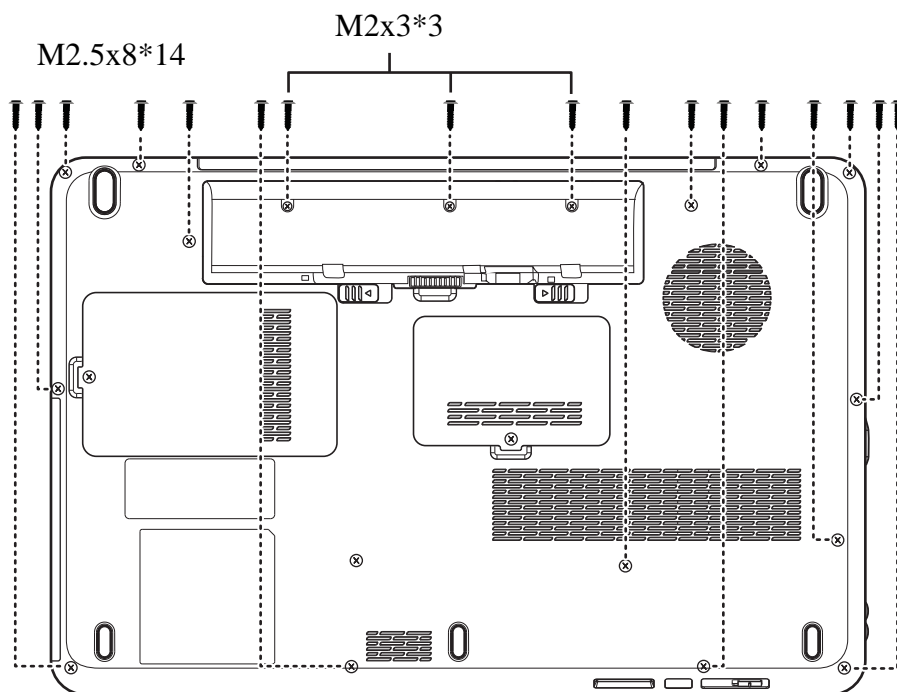

Figure 4.12 Removing the screws from the bottom of the laptop
Remove the logic upper assembly according to the following procedures and Figure 4.12, 4.13 and 4.14.
3. Turn the laptop upside down and secure it with 17 screws as indicated in Figure 4.12: